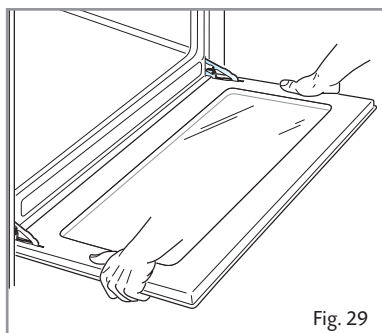

Fig. 29
- Grip the door (as indicated in figure 29) and refit it in reverse order of removing procedure.